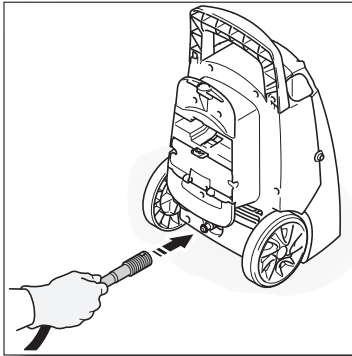

Fig. 3
- Connect high pressure hose to the outlet filter (**Fig. 3**). Make sure the connection clicks tightly in place. Failure to properly connecting the high pressure hose will result in the hose slipping or popping off immediately upon turning the unit on. Can also cause leaking.